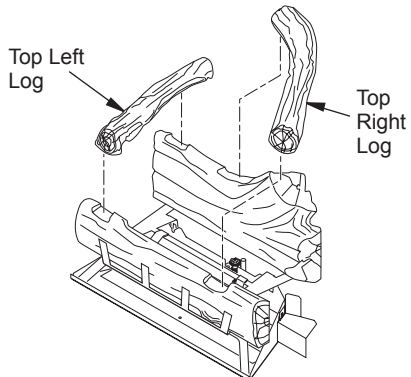

Figure 26 - Installing Top Left and Right Logs
- Place top right log into notches on left side of front and rear (see Figure 26).
- Place top left log into notches on right side of front and rear (see Figure 26).